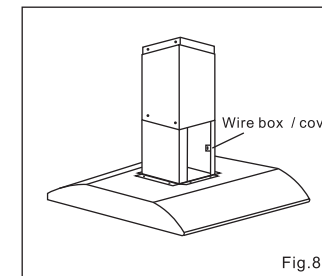

Fig.8
11. Remove the wire box cover please refer fig 8. Remove the knockout from the wire box.